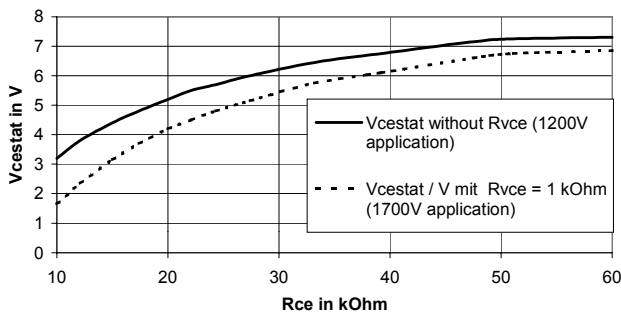

Fig. 3 V_{CEstat} in dependence of R_{CE}
2. Calculate approximate value of R_{CE} according to equation (1) or (1.1) from V_{CEstat} or determine R_{CE} by using fig. 3.
3. Determine t_{min} and calculate C_{CE} according to equations (2) and (3).